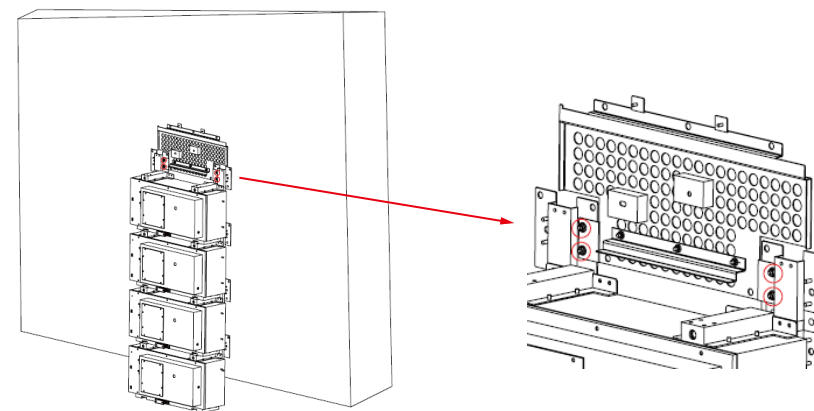

Figure 17 Placing the Rear Bracket of HV50056
Step 8 Fix the HV50056 rear bracket with flange nuts on the two bracket of the top battery, as shown in Figure 17.